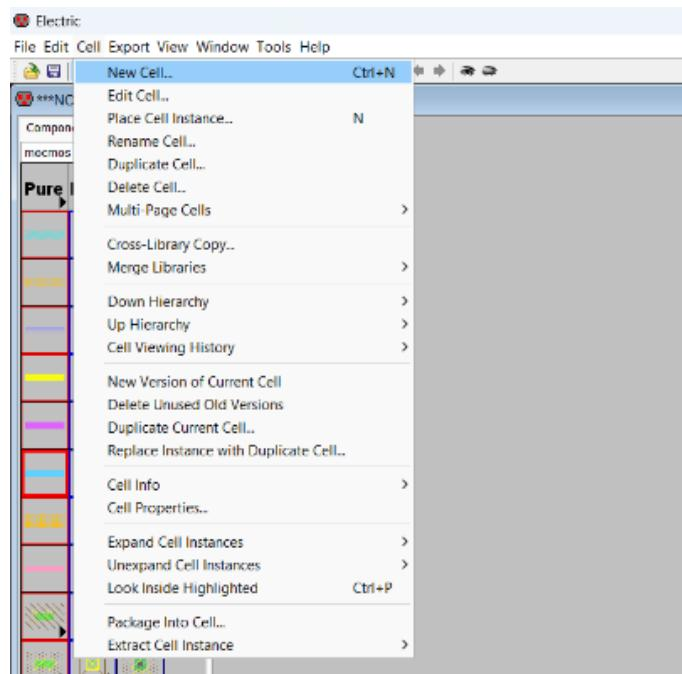

Figure 1.7: Creating a new cell.
5. Create a new schematic cell by clicking on Cell >> New Cell (see Figure 1.7).